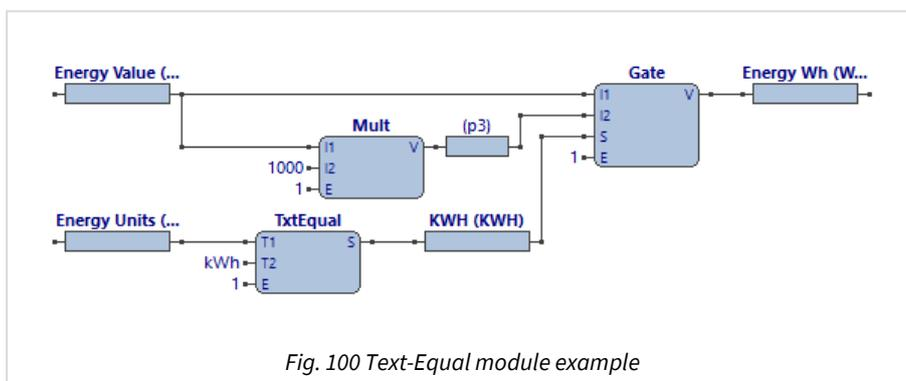

Fig. 100 Text-Equal module example
The ObVerse strategy (Fig. 100) determines whether the text value in the Units (U) property is 'kWh', , and if so it multiplies the Energy Value by 1000 to produce a Watthour value. If the Units value is not kWh, it passes the unchanged value into the Wh property.